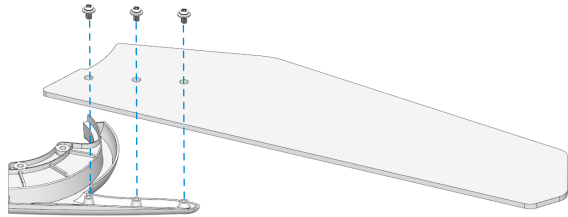

Fig. 2.1
2.1 Locate the 9 blade attachment screws included in the hardware pack. Use these screws to firmly attach each blade to the blade bracket, as demonstrated in Fig. 2.1.